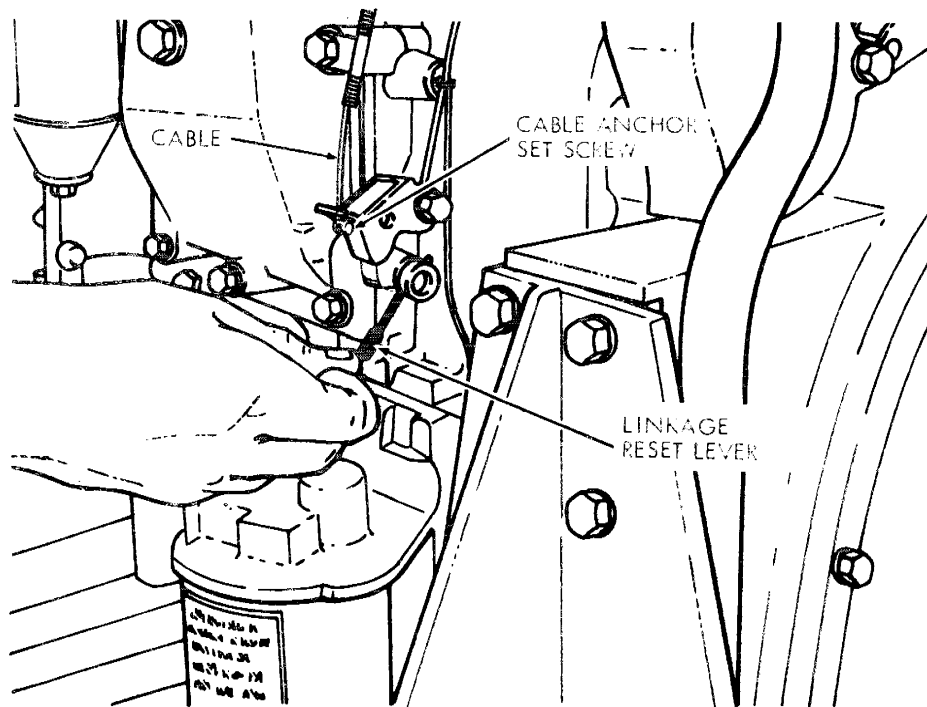

Figure 9
1. Loosen the set screw on the cable anchor, Figure 9, allowing the wire to slide freely within it.